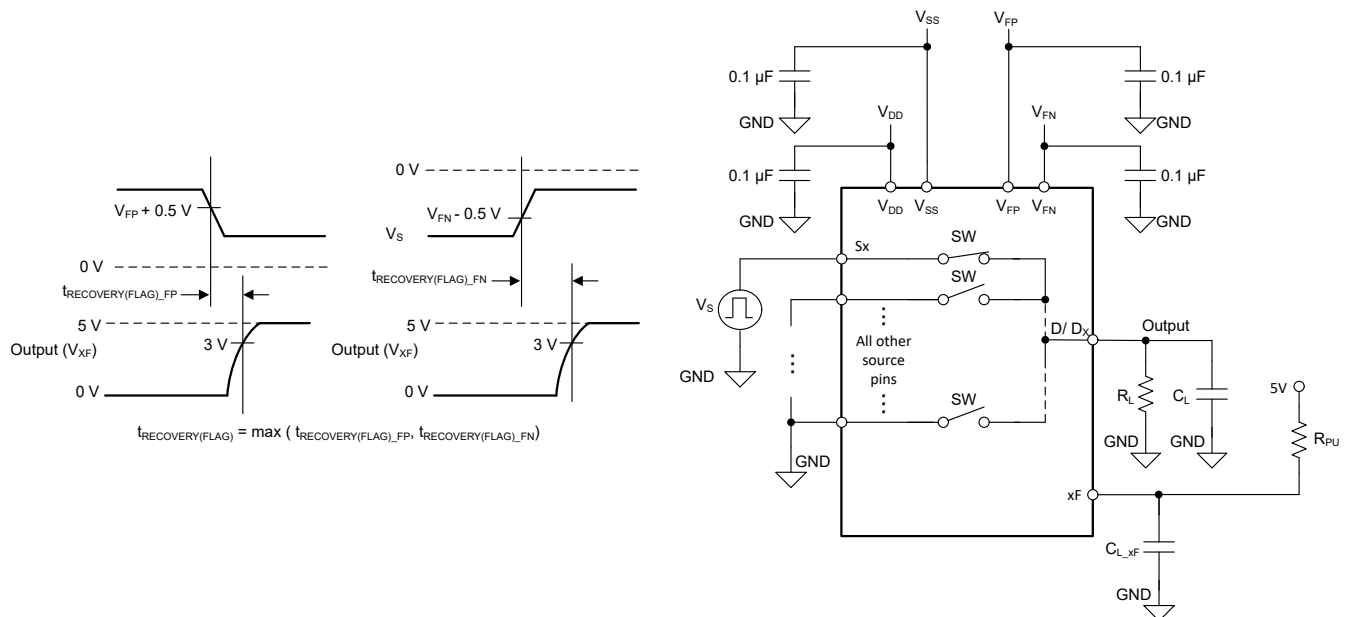

Figure 7-12. Fault Flag Recovery Time Measurement Setup
Fault flag recovery time ( $t_{\text{RECOVERY(FLAG)}}$ ) measures the delay between the source voltage falling from overvoltage condition to below fault supply voltage ( $V_{\text{FP}}$  or  $V_{\text{FN}}$ ) plus 0.5 V and the general fault flag (FF) pin or the specific fault flag (SF) pin to rise above 3 V with 5 V external pull-up. Figure 7-12 shows the setup used to measure  $t_{\text{RECOVERY(FLAG)}}$ .